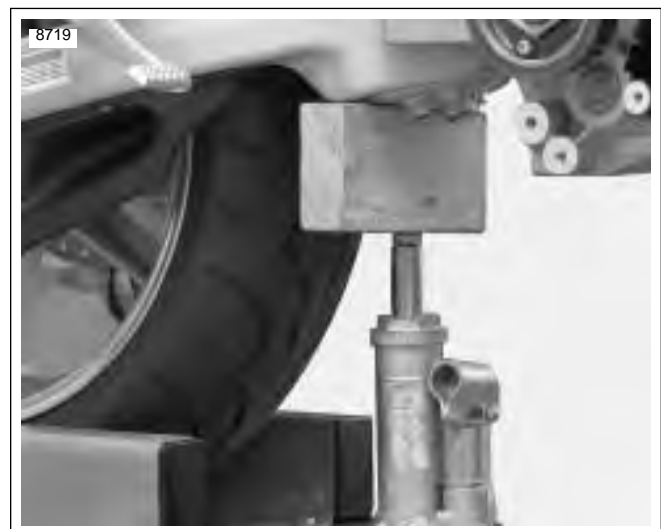

Figure 3-25. Supporting the Swingarm (Typical)
34. See Figure 3-25. Support swingarm/oil tank with wooden blocks, jack, etc.